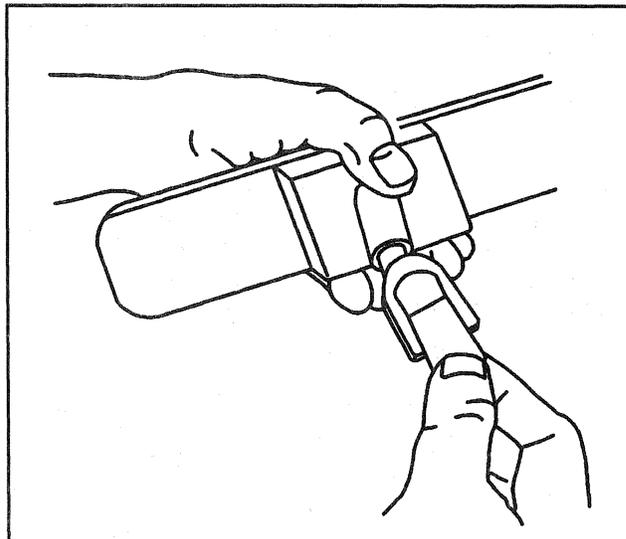

Figure 3—Removing Mirror Button
←→ Remove or Disconnect (Figures 3 and 4)
1. Mirror mounting button from mirror bracket (Figure 3).